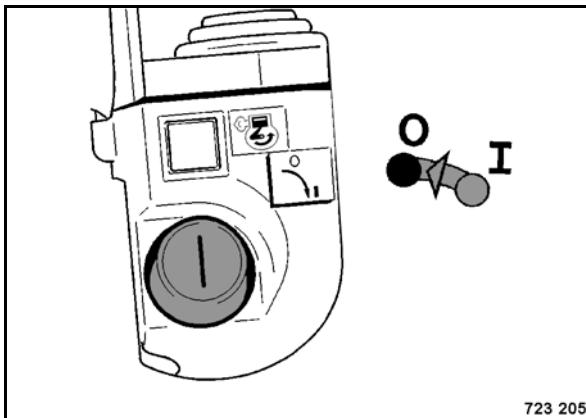

Fig. 66
- Turn the ignition key (Fig. 66) to position "0". Transmitter and engine will be switched off after two seconds, the green control light on the transmitter goes out.